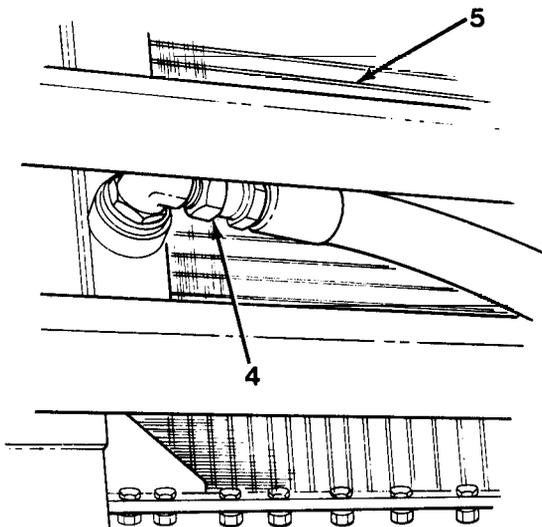
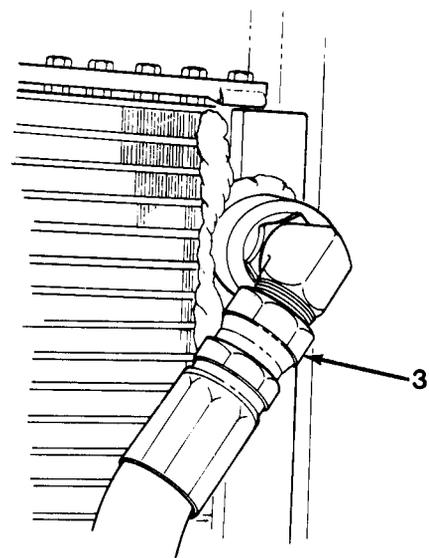

Figure 9-3
Figure 9-2
10. Connect hydraulic cooling hose (4, Figure 9-3) and hydraulic cooling hose (3, Figure 9-2) to front of oil cooler (5, Figure 9-3).